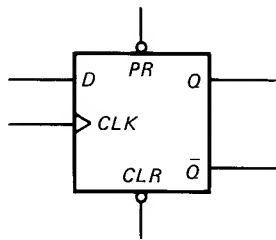

Fig. 7-11 Logic symbol for edge-triggered D flip-flop.
Figure 7-11 is the symbol of a positive-edge-triggered *D* flip-flop. The *CLK* input has a small triangle, a reminder of the edge triggering. When you see this schematic symbol, remember what it means: the *D* input is stored on the rising edge of the clock.
Figure 7-11 also includes preset (PR) and clear (CLR) inputs. The bubbles indicate an *active low state*. In other words, the preset and clear inputs are high when inactive. To preset the flip-flop, the preset input must go low temporarily and then be returned to high. Similarly, to reset the flip-flop, the clear input must go low, then back to high.